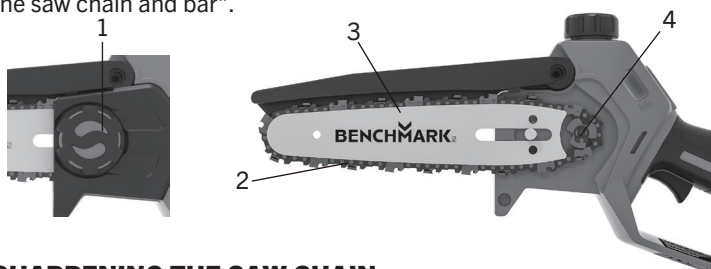

FIG. 11
3. Turn the sprocket cover knob (1) counter-clockwise to loosen the chain tensioning and to remove the sprocket cover (Fig.11).
4. Remove the saw chain (2). To remove the guide bar (3) raise it to an angle of approx.45 degrees. This will make it easier to take the saw chain (2) off the sprocket (4) (Fig.11).